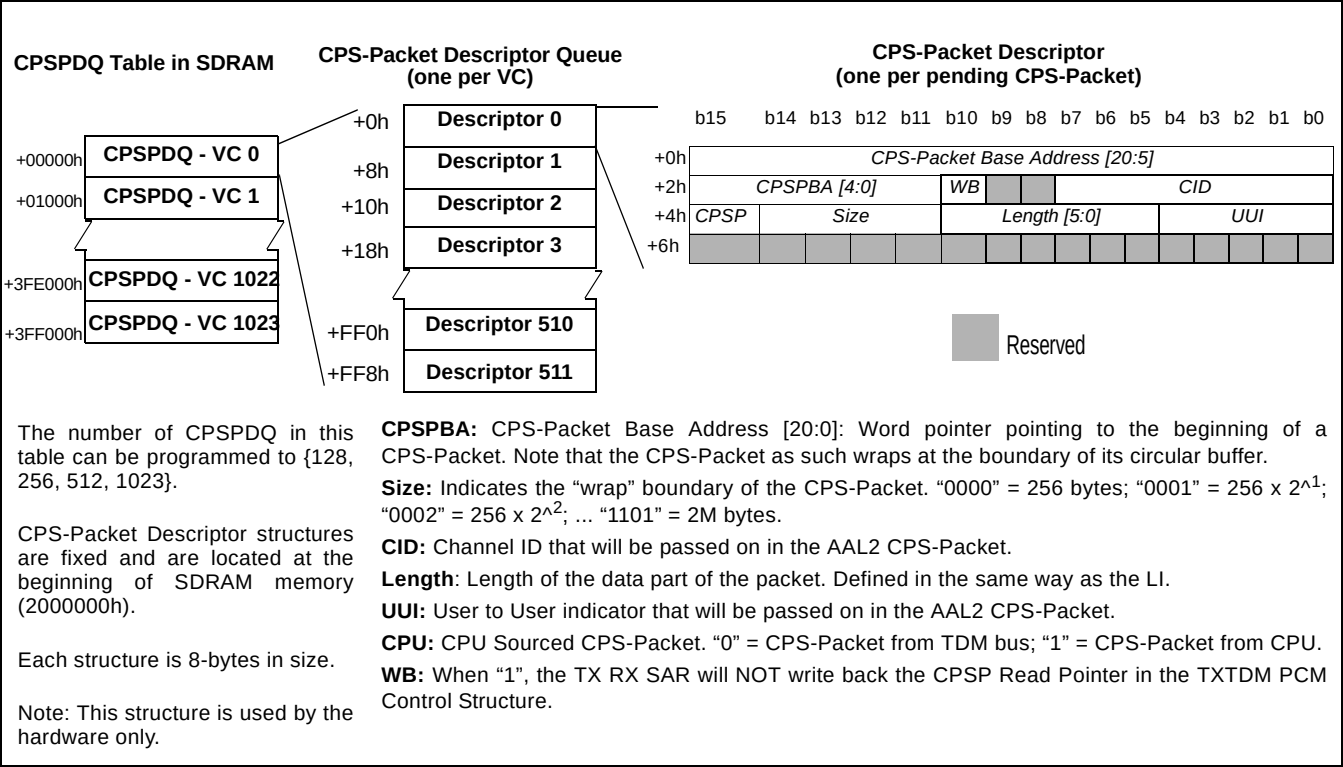

Figure 17 - CPS-Packet Descriptor Queue
The TX TDM module allows the generation of CPU sourced CPS-Packets. When the CPU requires to transmit an AAL2 CPS-Packet onto a certain VC, it programs the VC number in register 520h, and writes the CPS-Packet's descriptor structure in registers 522h to 526h. The format of the CPS-Packet descriptor structure is given in Figure 17. Word 0 must be written into register 522h, Bytes +2 and +5 to register 524h and Bytes +4 and +5 to register 526h. Finally, it writes a '1' to the `cps_packet_request` bit in register 520h, which begins the request. When the bit clears, the process has concluded and the CPS-Packet has been added to the TX VC's queue.
2) A CPS-Packet descriptor is written to registers 522h, 524h, and 526h. The value to which each field must be set is indicated in Figure 17, “CPS-Packet Descriptor Queue,” on page 38.